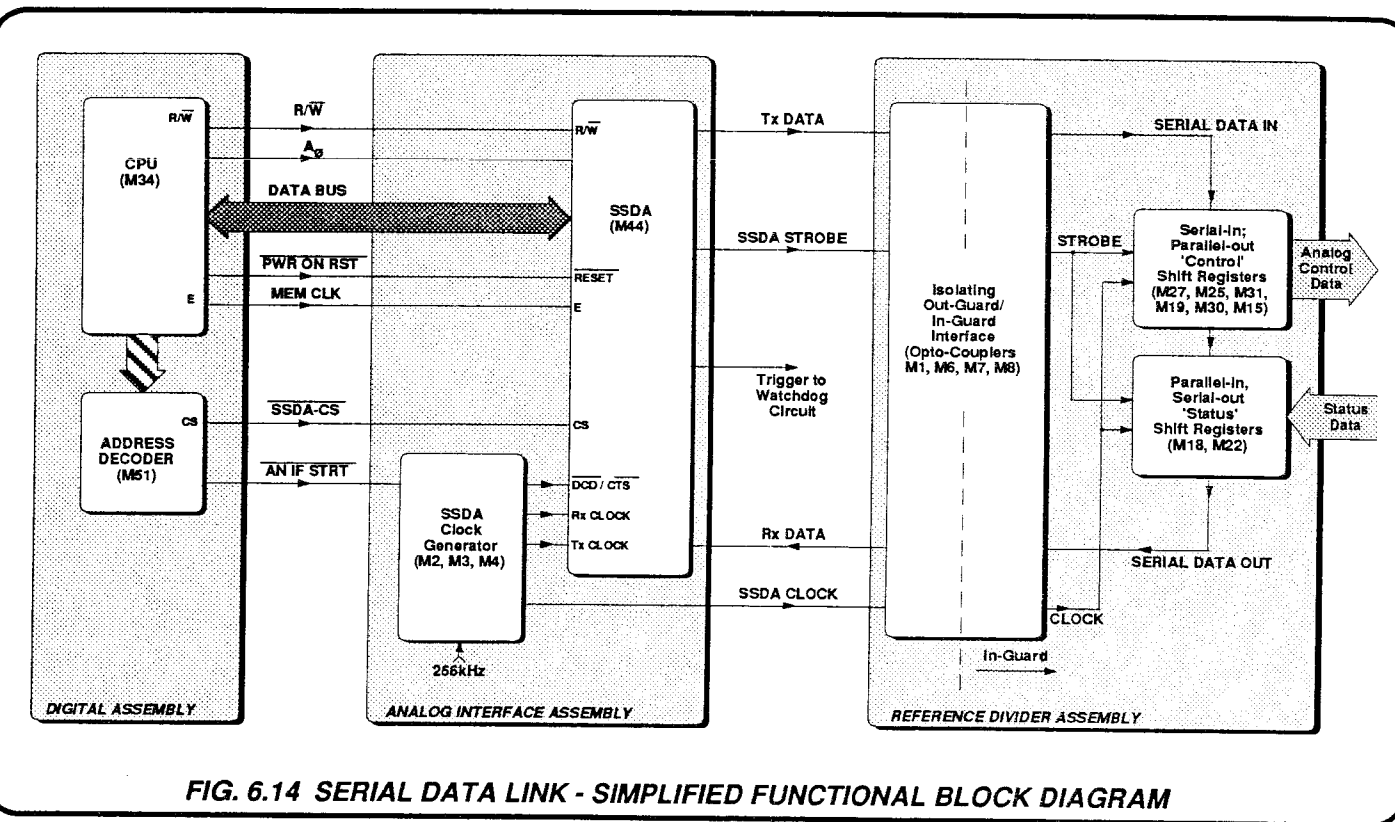

FIG. 6.14 SERIAL DATA LINK - SIMPLIFIED FUNCTIONAL BLOCK DIAGRAM
- Provides a two-way interface via a serial data link between out-guard digital processing and in-guard analog control circuitry on the reference divider assembly (see Fig. 6.14).
Certain selected 'Status' signals, originating in the analog assemblies, are returned to the CPU during the data transfer. Thus, the data link forms a continuous loop, as shown in Fig. 6.14.
### 6.4.2 SERIAL DATA TRANSFER (Fig. 6.14)
#### 6.4.2.1 The Transfer Cycle (Fig. 6.14)